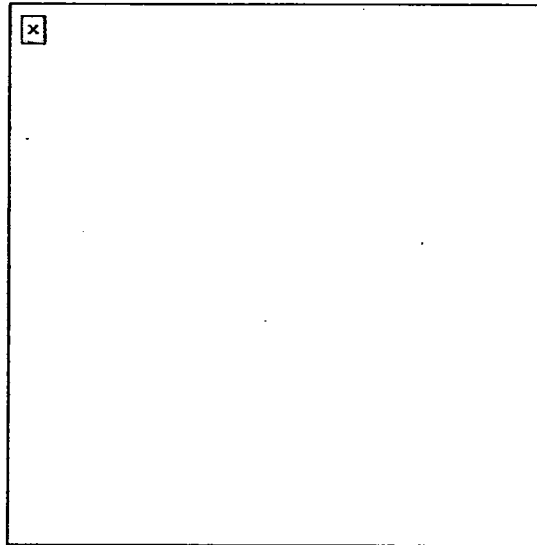

Figure 191-376-4121-4
- d. Grasp the baton with your left hand, palm facing out and away from the body and about 6 inches from the end of the baton as shown in Figure 191-376-4121-4.